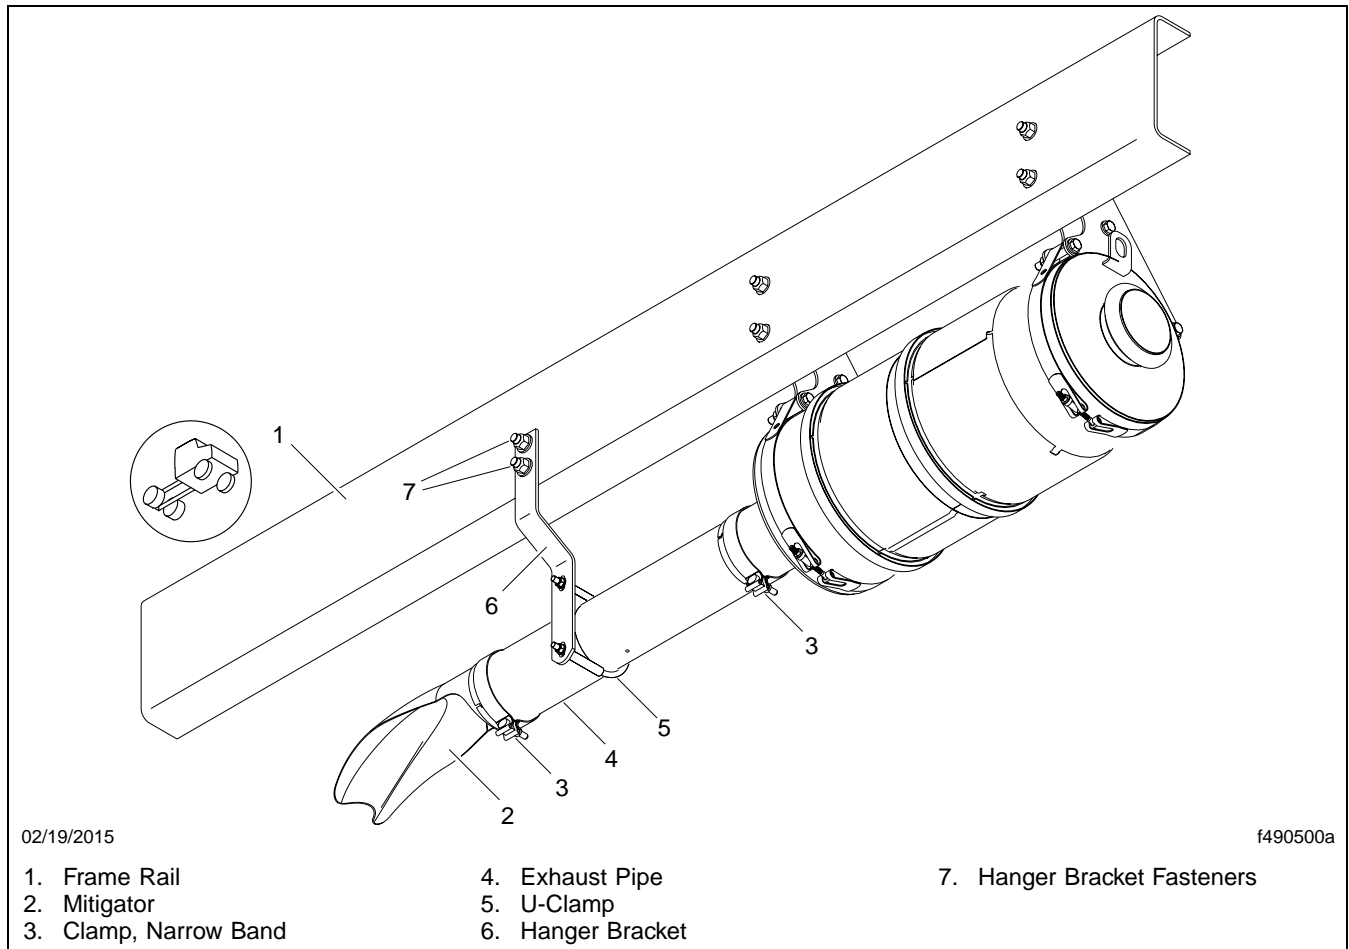
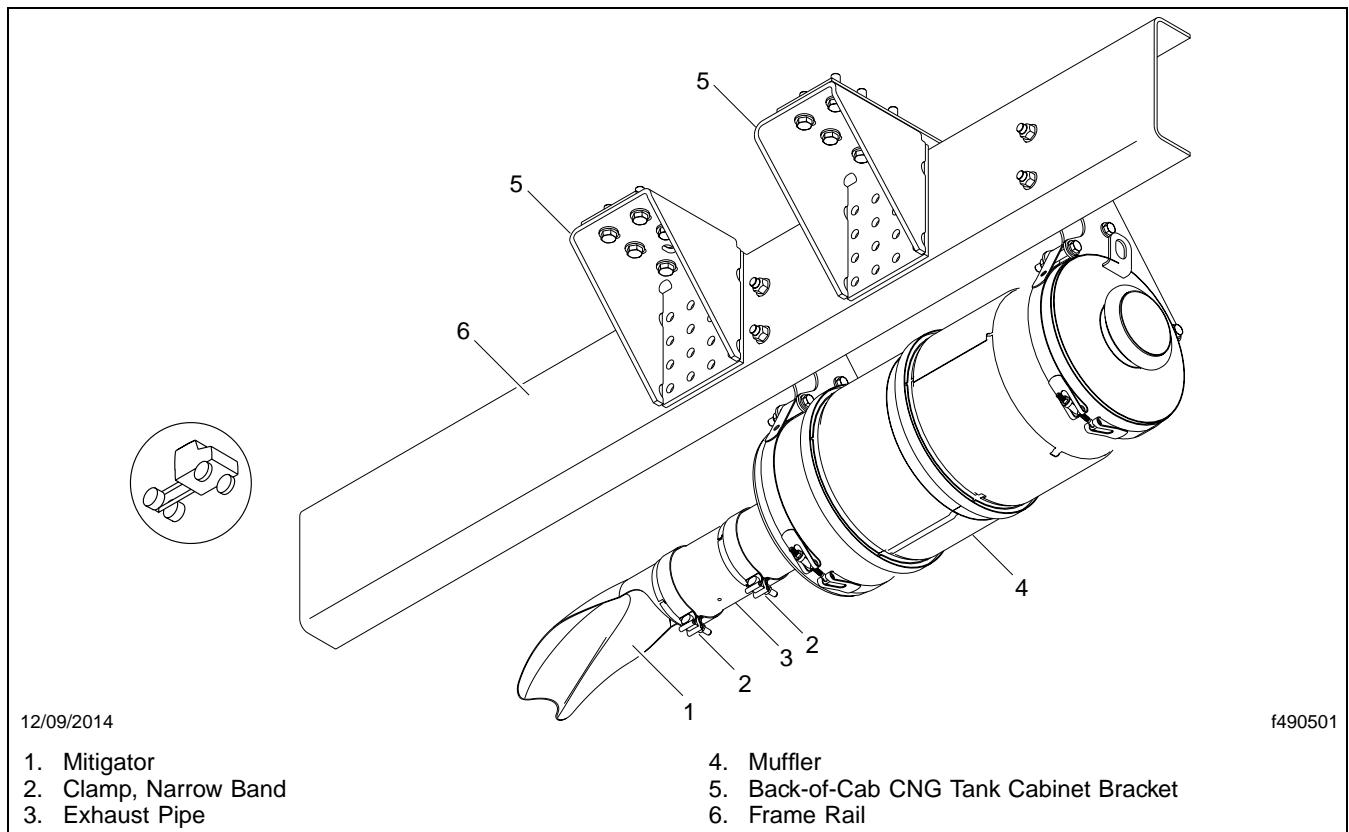

Fig. 1, Exhaust Pipe Installation, Direct to the Frame Rail Mounting
Fig. 2, Exhaust Pipe Installation, No Hanger
Vehicles in SF504AB require one hanger bracket. Refer to **Fig. 1**. Vehicles in SF504C do not require a hanger bracket. Refer to **Fig. 2**.
- Clamp the bracket in place on the frame rail, then back-drill the frame rail as needed. See **Fig. 1**.